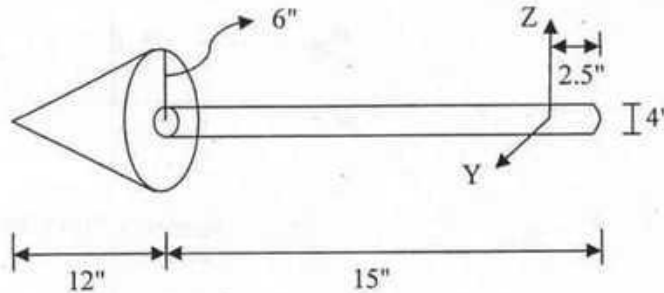

FIGURE 2
2. Determine the mass moment of inertia of the composite body shown in FIGURE 2 about Z-Z axis. It is given that the unit weight of the cone is 490 lb/ft^3 and unit weight of the cylinder 530 lb/ft^3 . (10)